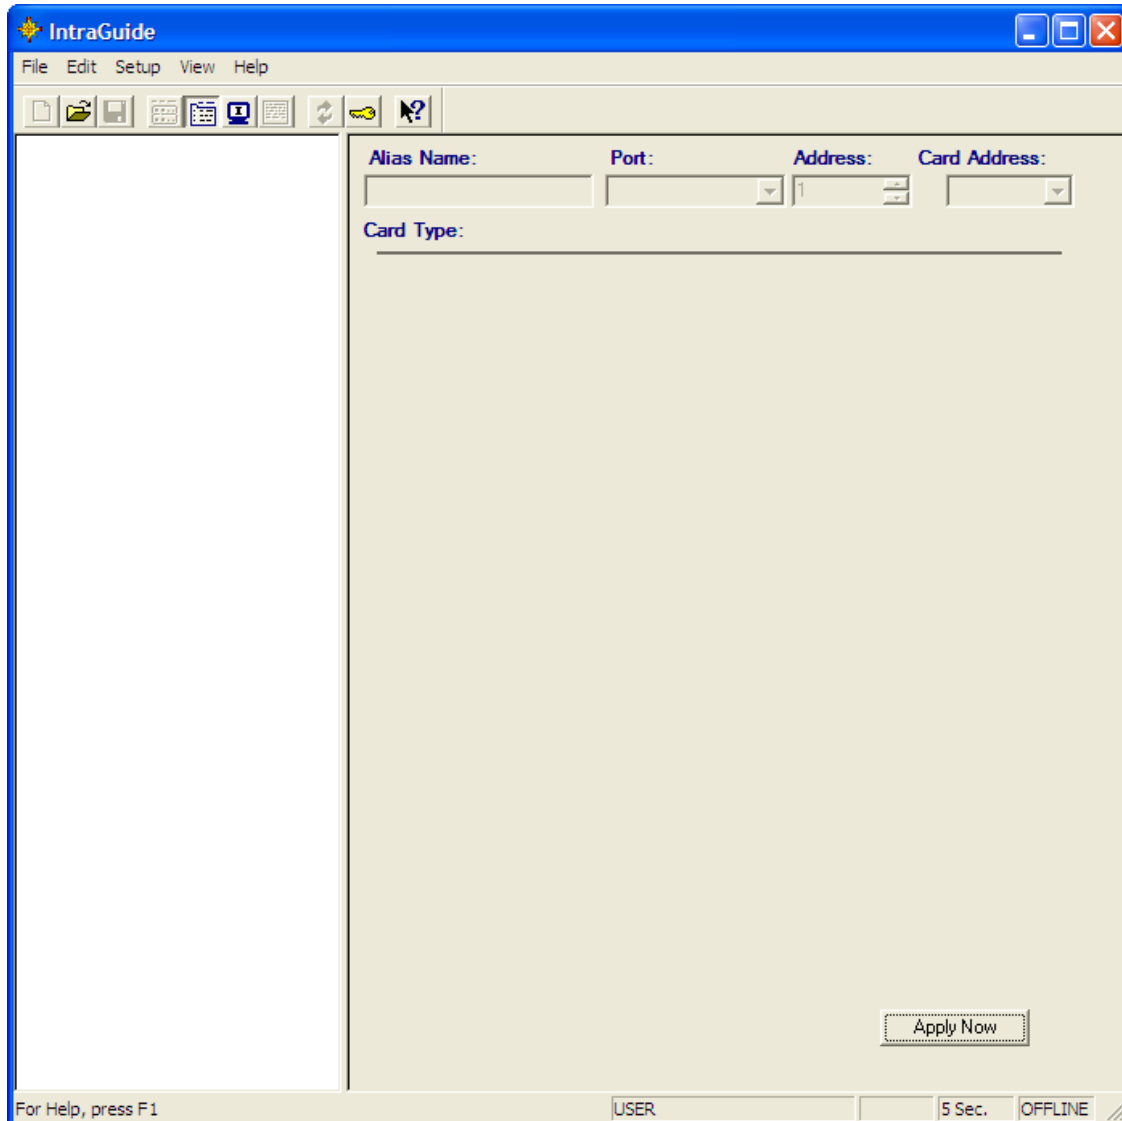

Figure 5-3. New Configuration File
1. On the **File** menu, click **New** to create a new configuration file which you can save (Figure 5-3).